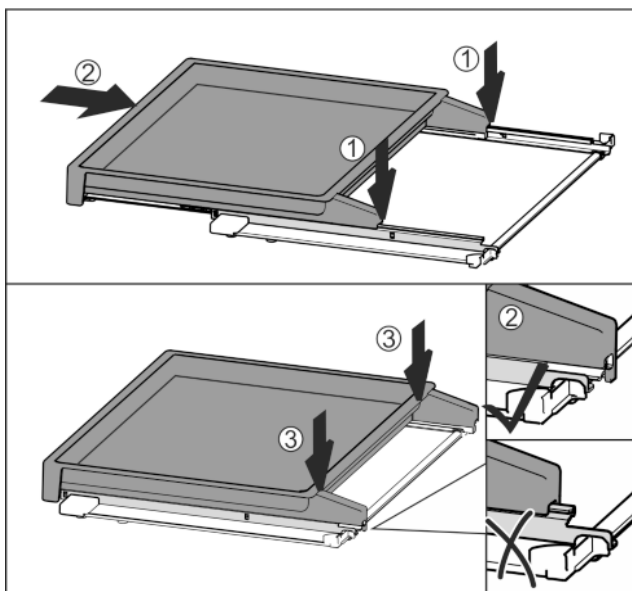

Fig. 39
- Place centrally on the rails Fig. 39 (1).
- Slide the pull-out board all the way in Fig. 39 (2).
- Press down at the back until it clicks into place Fig. 39 (3).